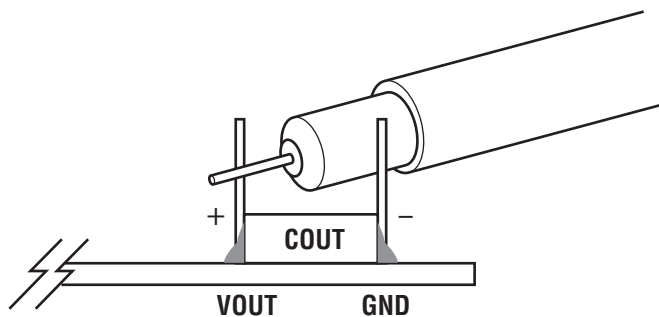

Figure 2. Scope Probe Placements for Measuring Input or Output Ripple
7. Once the input and output voltages are properly established adjust the loads within the operating range (0A to 1A max) and observe the output voltage regulations, output ripple voltages, switch node waveforms and other parameters. Refer to Figure 2 for proper input/output voltage ripple measurement.
Note 1: To measure the input/output voltage ripple properly, do not use the long ground lead on the oscilloscope probe. See Figure 2 for the proper scope probe technique. Short, stiff leads need to be soldered to the (+) and (–) terminals of an output capacitor. The probe's ground ring needs to touch the (–) lead and the probe tip needs to touch the (+) lead.